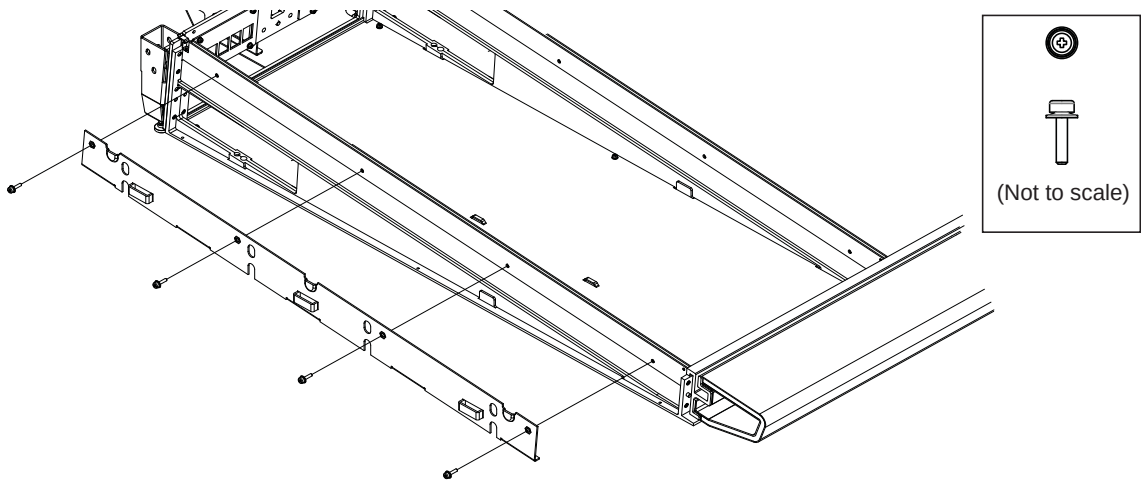

Figure 30. Attaching the left side panel mounting plates
- 2 Secure the Left Side Mounting Plate to the left side of the frame using the included (rounded) Phillips screws, making sure to orient the brackets correctly as shown in Figure 30.